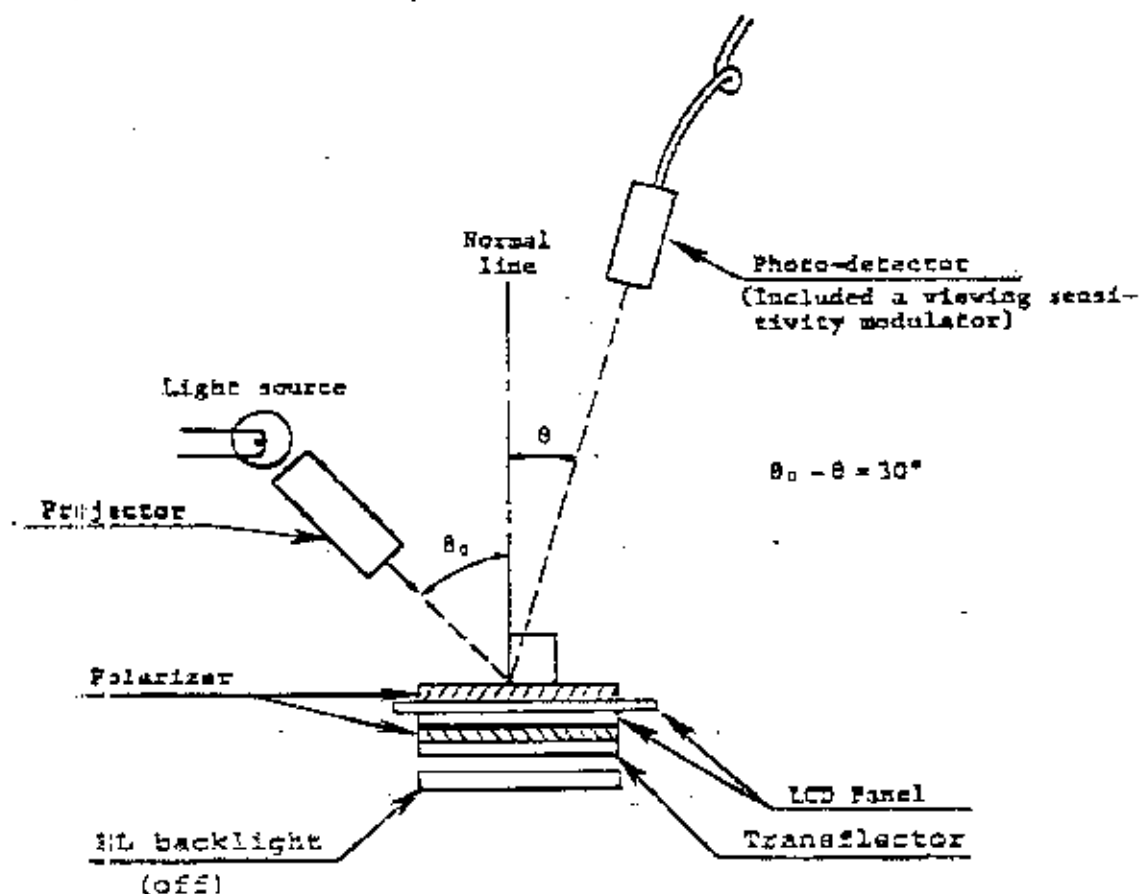
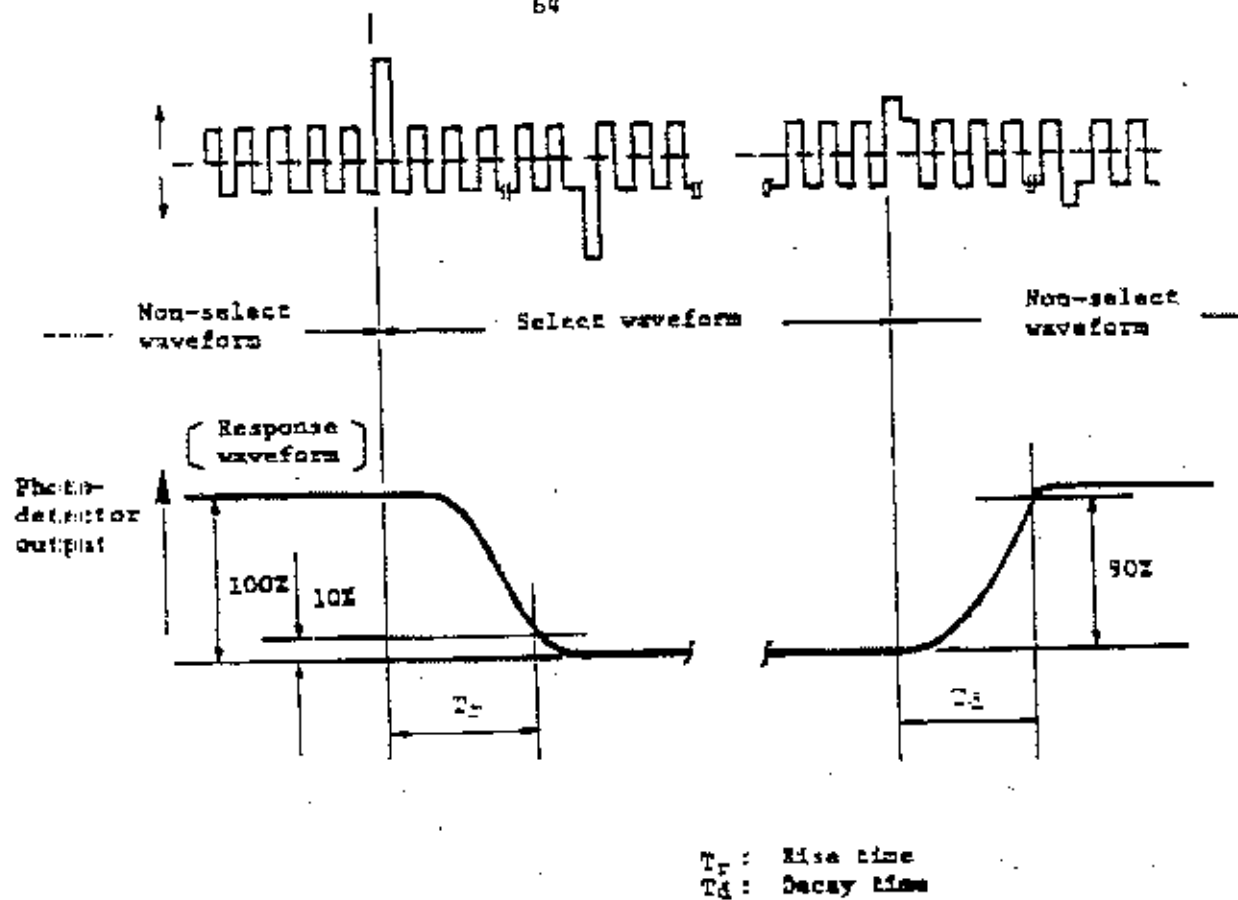

Fig. 3 Optical Characteristics Test Method
Fig. 4 Definition of Response Time
Contrast ratio is calculated by using the following formula when the waveform voltage (Fig. 4) is applied in the optical characteristics test method (Fig. 3).
- Note 3) The response characteristics of photo-detector output are measured as shown in Fig. 4, assuming that input signals are applied so as to select and deselect the dots to be measured, in the optical characteristics test method shown in Fig. 3.